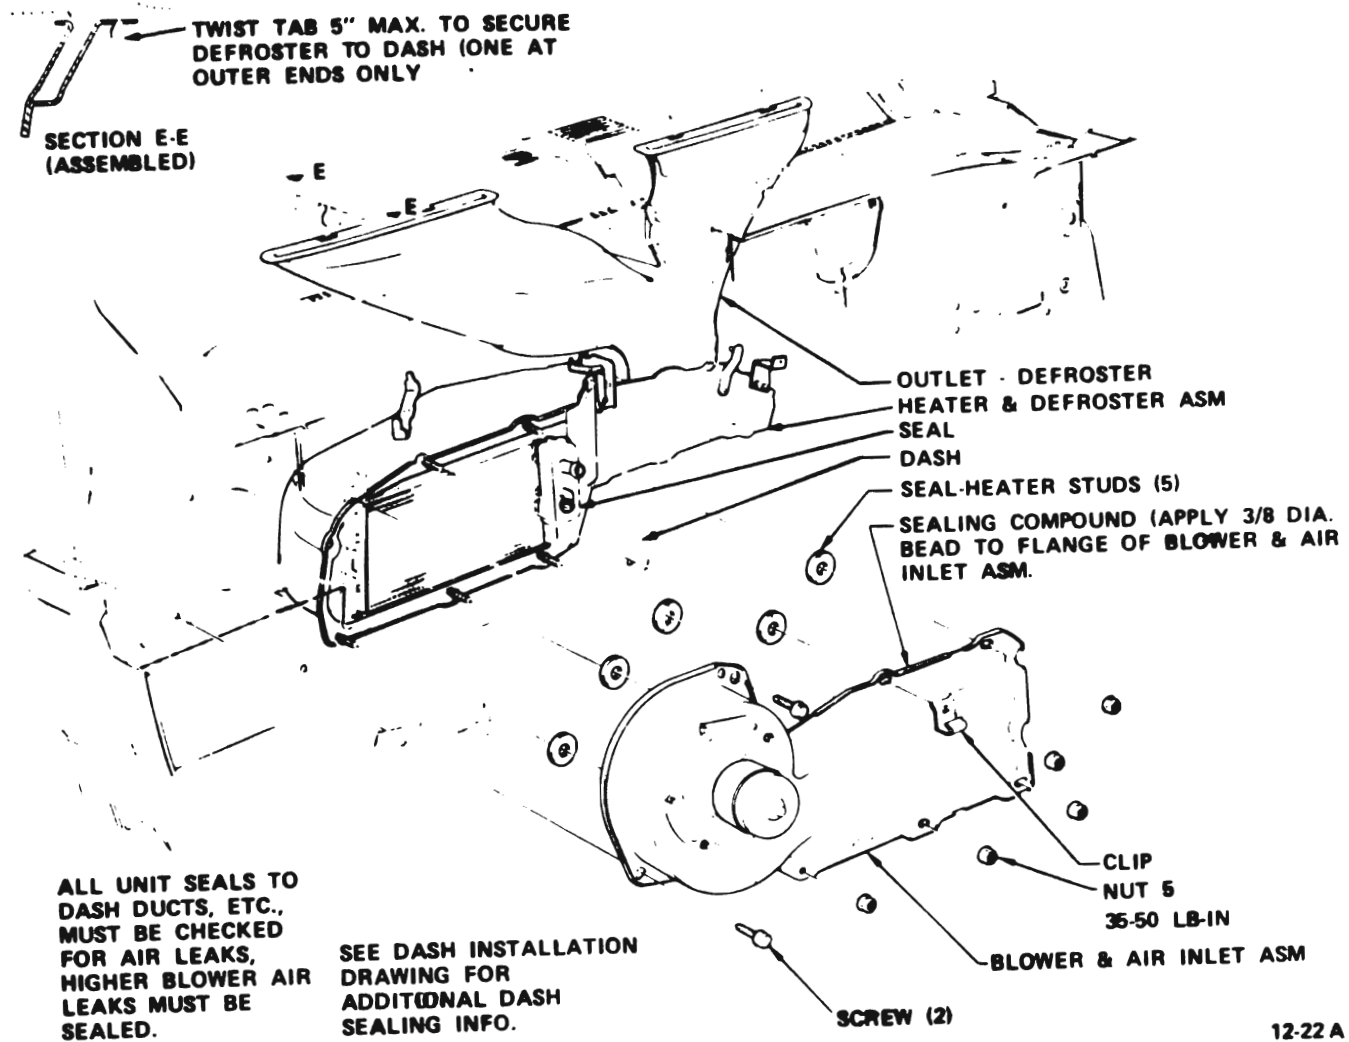

Figure 12-3 Heater Installation
2. Heater Assembly - The heater assembly (see Figure 12-3) houses the heater core and the doors necessary to
3. (Blower Motor and Air Inlet Assembly) Disconnect blower motor wire. Remove five nuts and two screws securing blower and air inlet assembly to dash. See Figure 12-3.
1. (Blower Motor and Air Inlet Assembly) Install five (5) nuts and two (2) screws, securing blower and air inlet assembly to dash. Connect blower motor wire. See Figure 12-3.